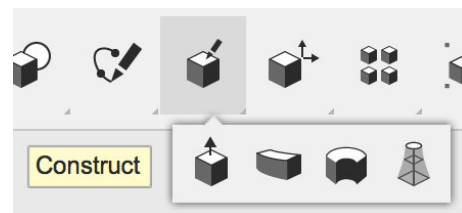

Figure 4-17 Select the Construct option
1. Hover the cursor over the top menu bar and select Construct (Figure 4-17).